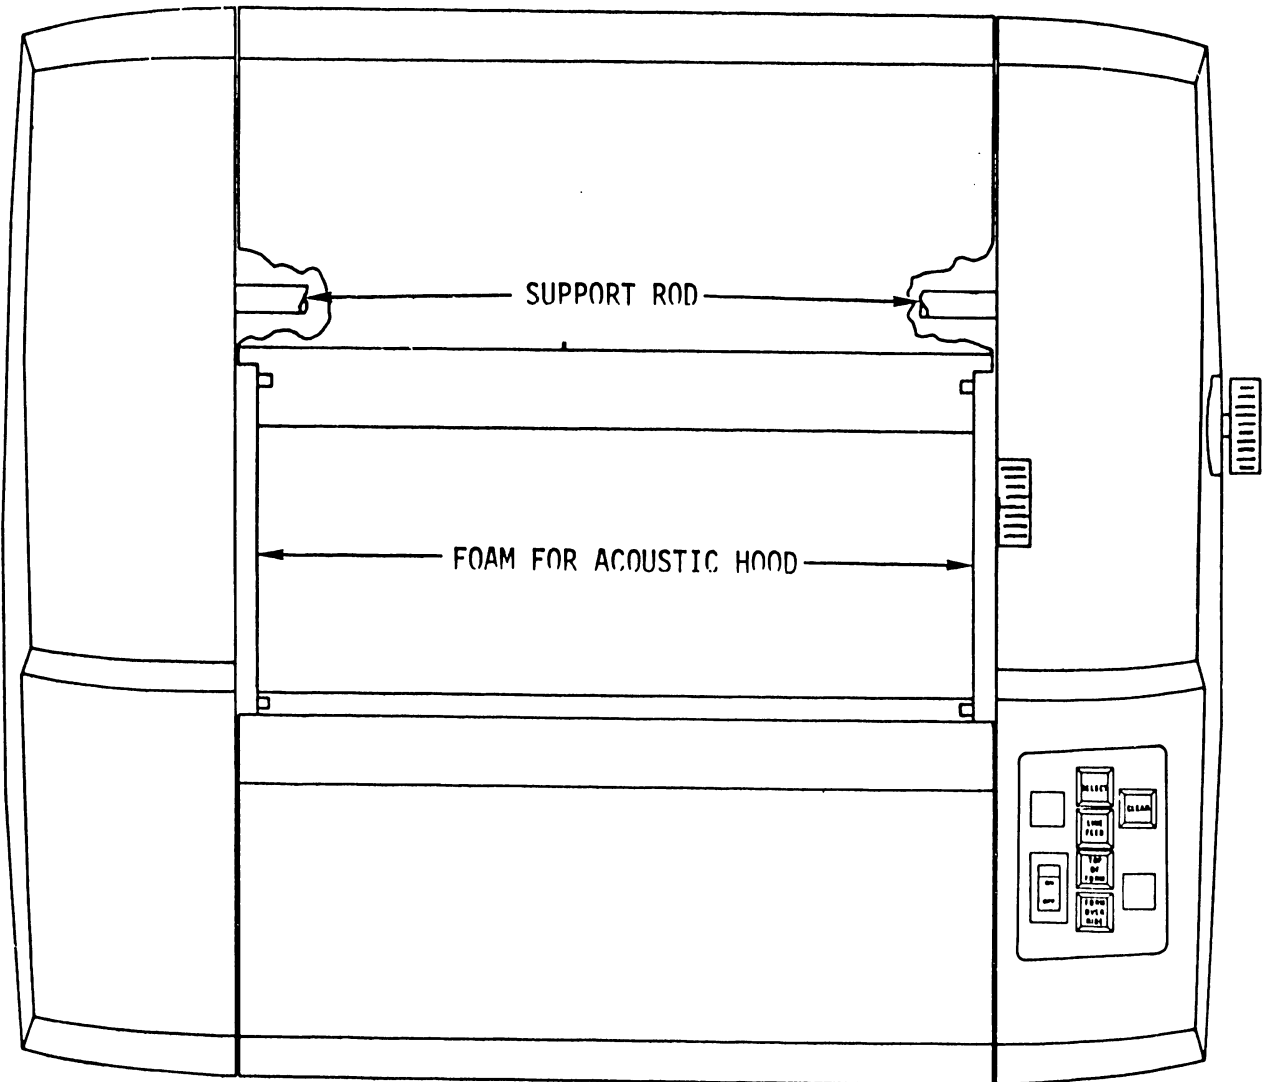

FIGURE 2-4 ACOUSTIC HOOD AND SUPPORT ROD FOR PAPER RACK
- 2) Attach the paper rack to the printer by inserting the slotted portion of the paper rack arms onto the support rod (support rod is shown in Figure 2-4); pull the rack to the rear as far as possible. The support rod is accessible through the gap between the rear cover and the side frames. With the arms attached to the rod, let the feet near the bottom of the rack seat around the two hex head bolts on the rear of the printer.